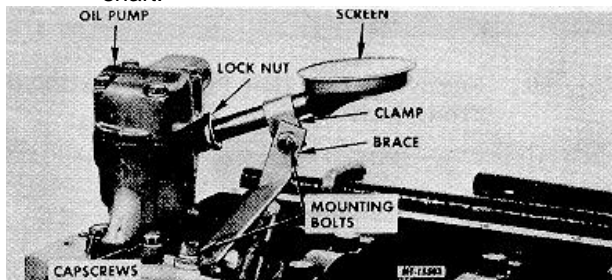

Fig. 54 Oil Pump Mounting Details for Engines Below Serial No. 51135
47. On serial numbers before 51135, remove mounting nut, lockwashers, flat washers and bolts from oil pump screen brace and clamp (Fig. 54). Loosen oil pump mounting capscrews and remove oil pump from crankcase.